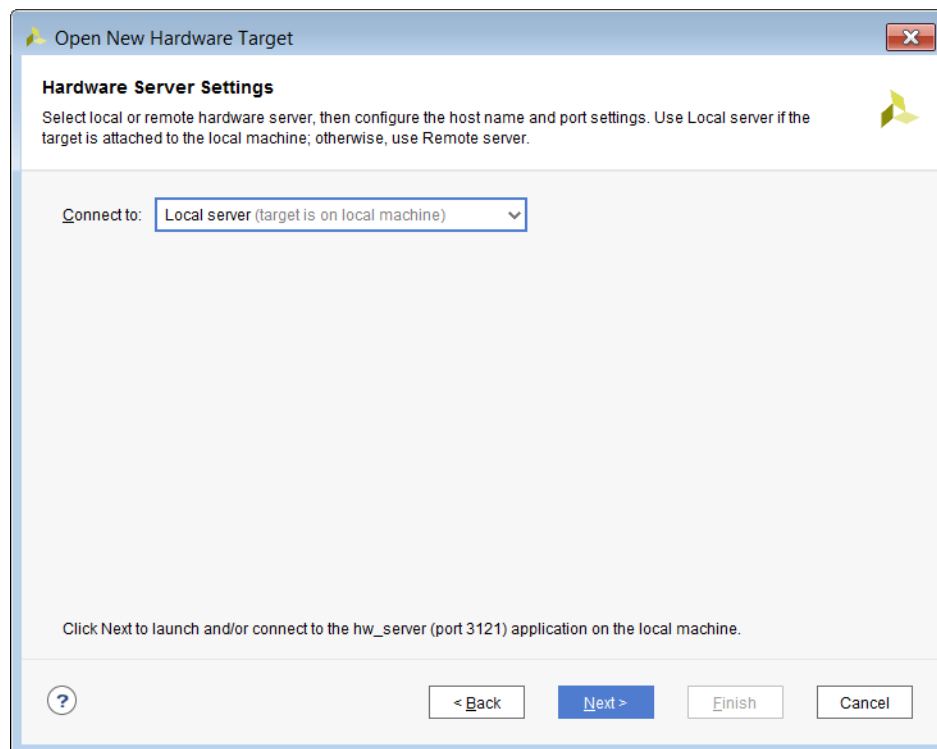

Figure 4-3: Using a Local Hardware Server
- Local server: Use this setting if your hardware target is connected to the same machine on which you are running the Vivado Lab Edition or Vivado IDE (See Figure 4-3). The Vivado software automatically starts the Vivado hardware server (`hw_server`) application on the local machine.